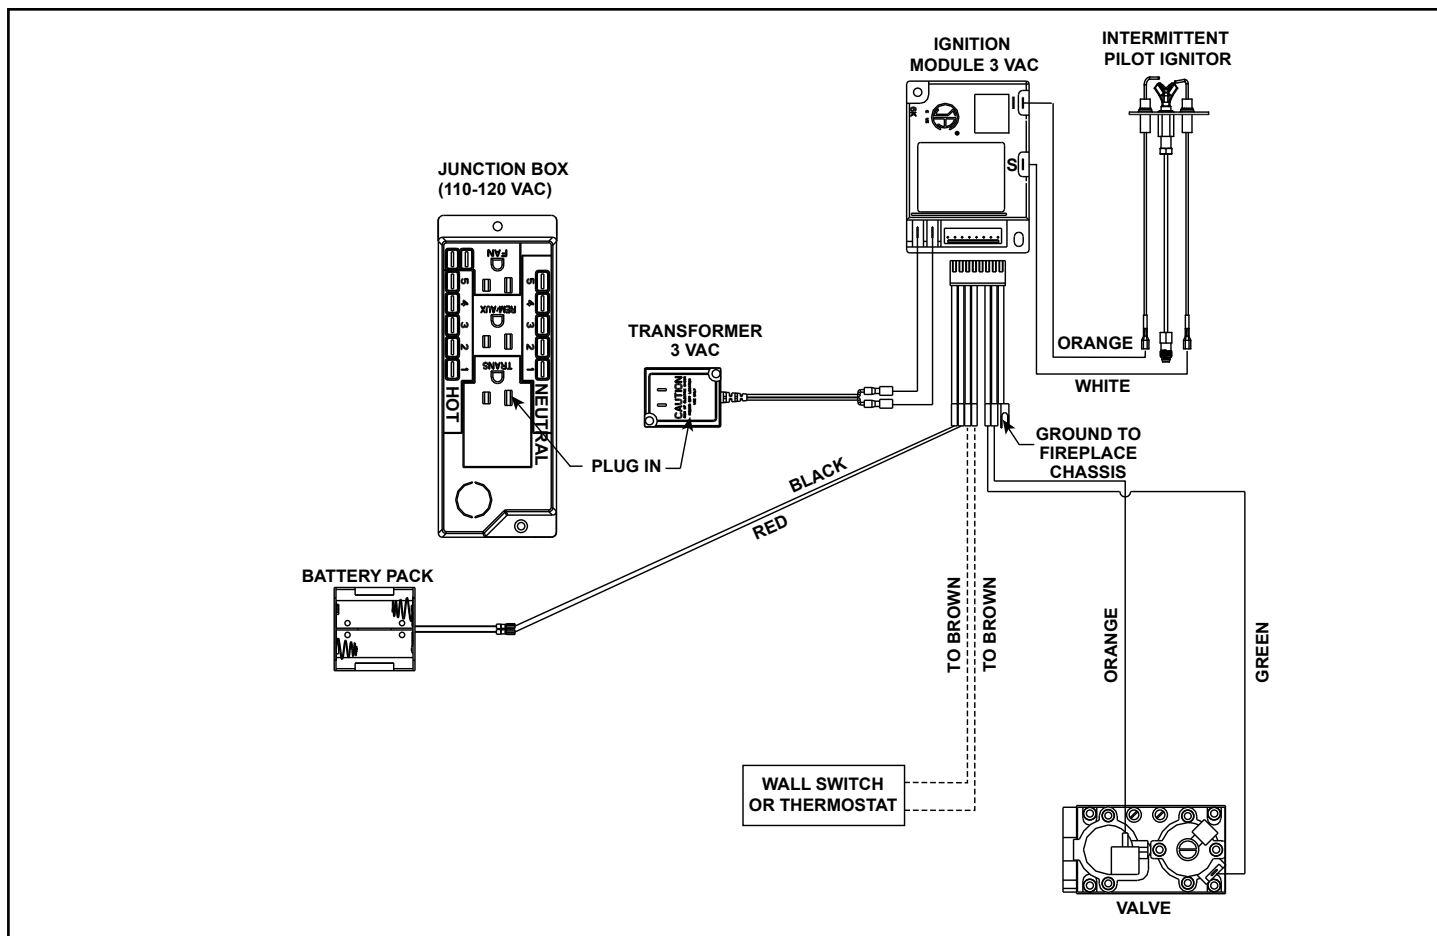

Figure 8.4 IntelliFire Wiring Diagram - Standard
- Refer to Figure 8.4, IntelliFire Pilot Ignition (IPI) Wiring Diagram.